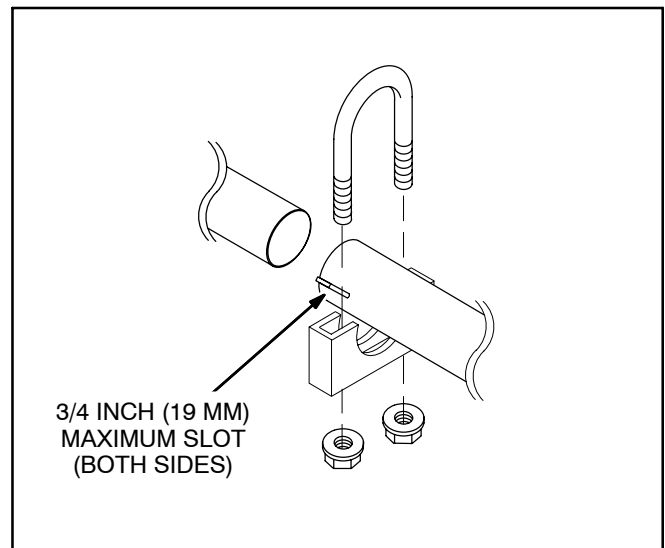

FIGURE 3-2. EXHAUST TAILPIPE CONNECTIONS
3. Use U-bolt muffler clamps to connect sections of tailpipe. It is recommended that the overlapping pipe be slotted as shown in Figure 3-2.